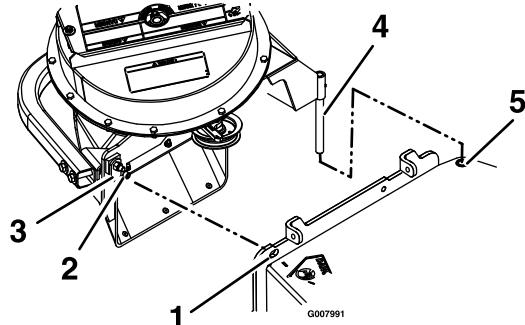

Figure 16
- B. Mount the blower on the deck by inserting the mounting pin into the tube welded to the rear corner of the deck (see Figure 16).